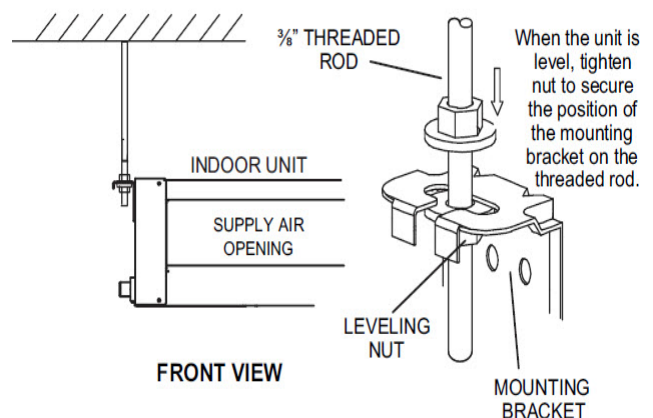

Fig. 11 —Threaded Rod
3. Secure the unit in position with locknuts and washers on both sides of the mounting bracket. Ensure that the threaded rod does not protrude more than 2 in. below the mounting brackets as shown in Fig. 11.